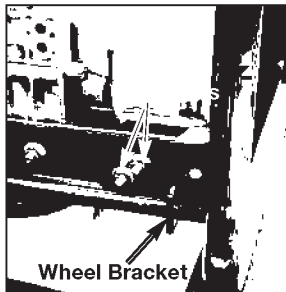

Figure 3
3. Using two screws (8) and two lock nuts (7) install the wheel bracket (3) on the bottom right side of the engine support as shown in Figure 3. Do not tighten.